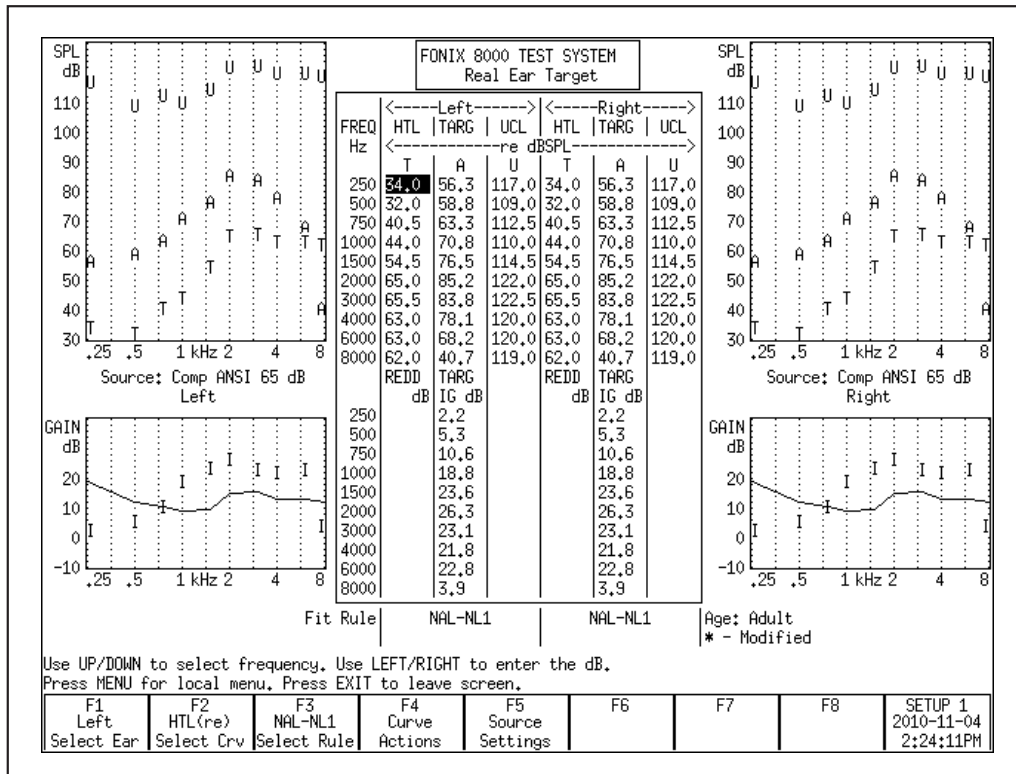

Figure 8.3.6—The Real-Ear Target screen
2. Press [F2] to enter the Real-Ear Target screen. See Figure 8.3.6. If you have input an audiogram as described in Section 8.3.1, you should see targets in both the SPL and gain graphs.